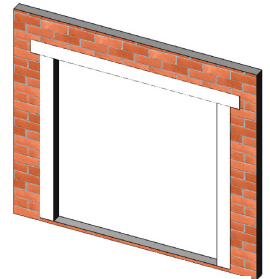

Figure 12:
3. Finally, at the head, embed the flashing into the sealant on the mounting flange and fasten into place. The flashing paper should be cut sufficiently long enough to extend past the flashing paper at each jamb by at least 3 in (Figure 12).